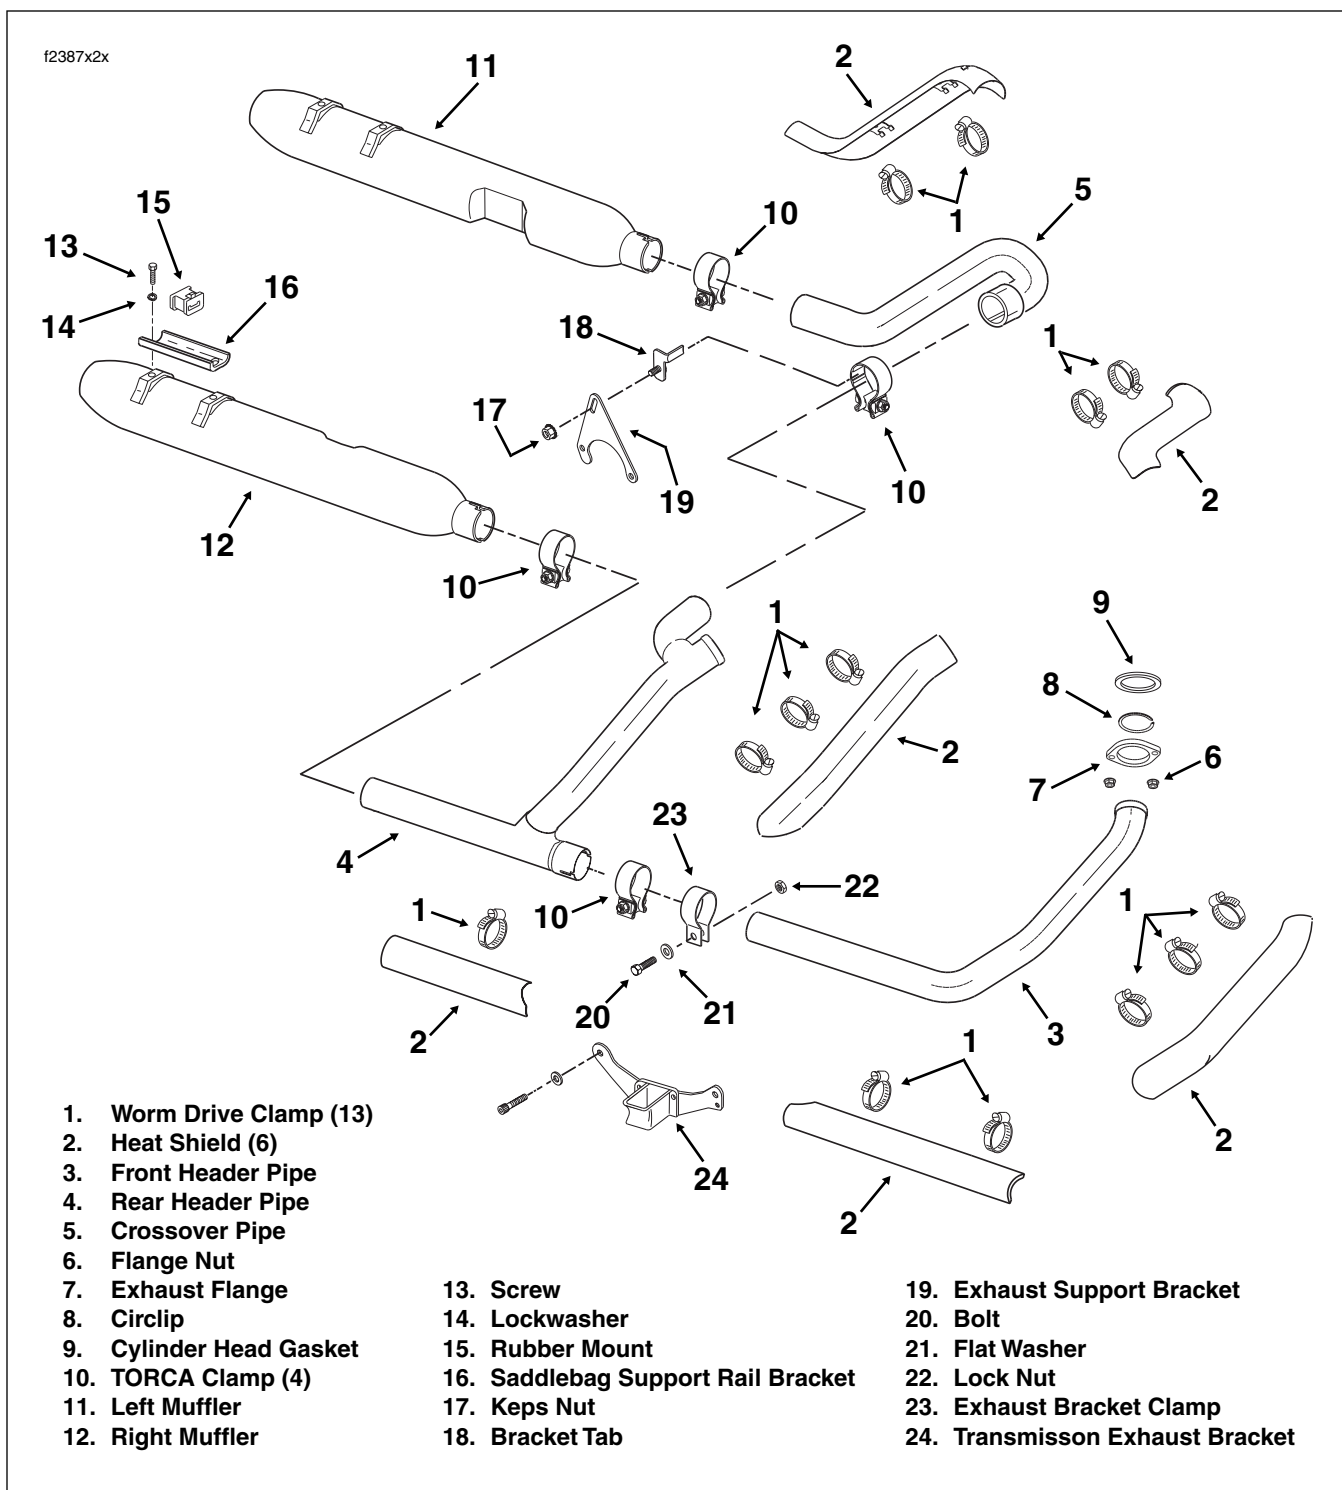

Figure 2-207. Disassemble/Assemble Exhaust System
4. Open worm drive clamps and remove six heat shields from exhaust pipes. Mark the location of the heat shields to ensure proper assembly. See Figure 2-207.
14. Open worm drive clamps and install six heat shields on exhaust pipes as marked during removal. See Figure 2-207. Position each clamp so that screw is on the outboard side in the most accessible position and then tighten to 20-40 **in-lbs** (2.3-4.5 Nm).